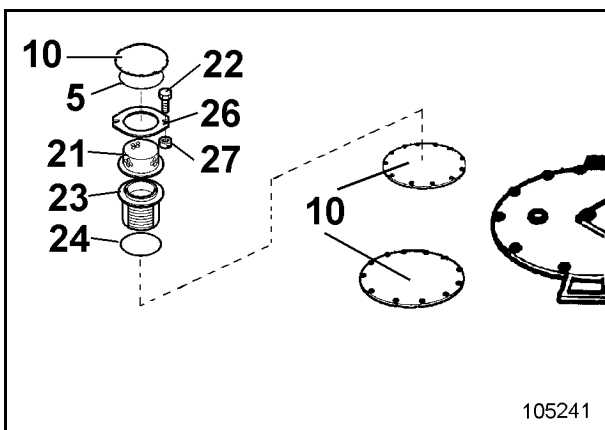
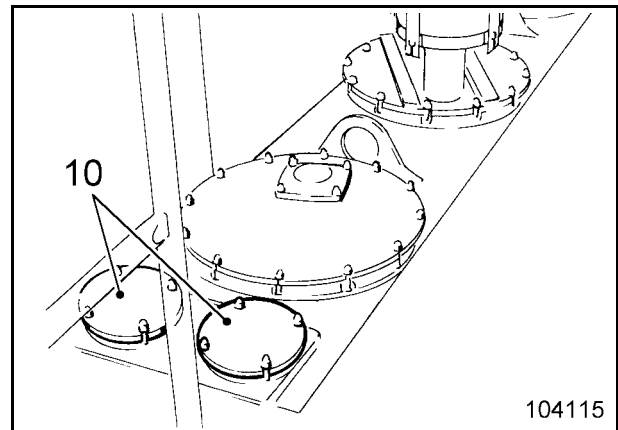

Fig. 3-47:
Fig. 3-48:
Clean/replace the bypass valves (Fig. 3-47:) together with the bypass valves in the hydraulic oil reservoir.
- Detach cover (10, Fig. 3-48: resp. Fig. 3-47:) together with sealing ring (5).
- Unscrew screws (22) and withdraw bypass valve.
- Take off screen (23) together with sealing ring (24) and clean in white spirit or paraffin oil; replace, if required.
- Insert bypass valve and fasten with screws (22).
- Refit cover (10) with a new sealing ring (5).